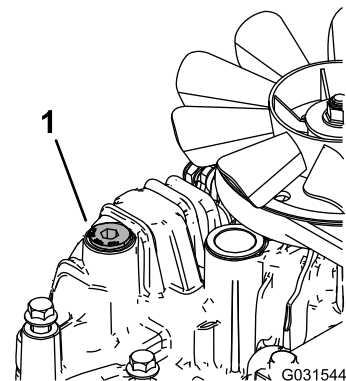

Figure 77
11. Loosen the vent plug in each transmission so that it is loose and wobbles (Figure 77).